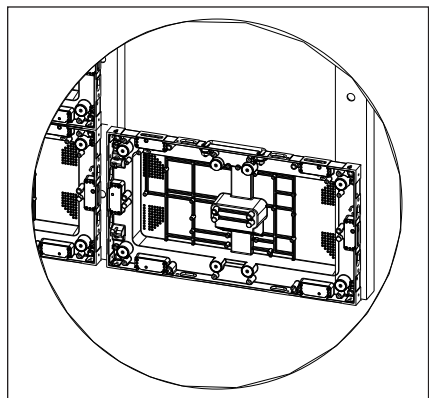

Figure 14: Set Panel in Place
- Place the panel beside the existing panel. Refer to **Figure 14**.